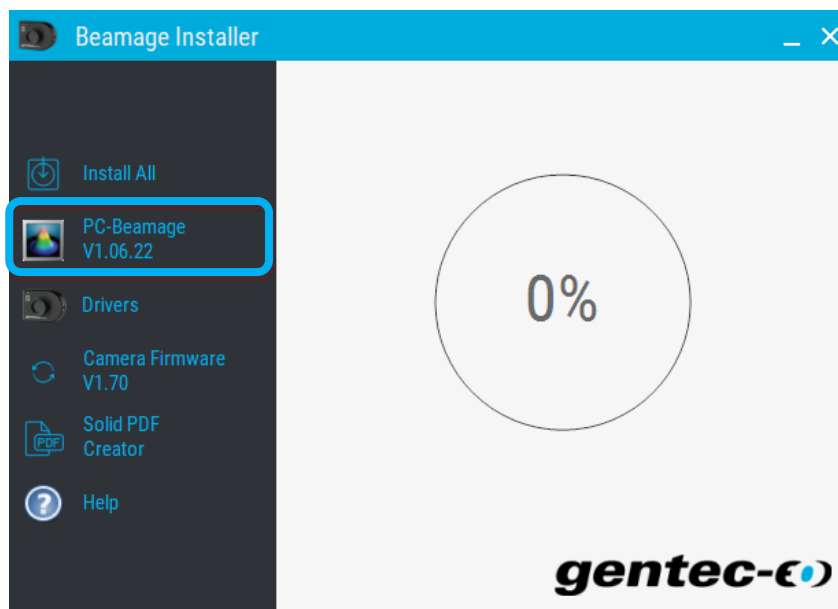

Figure C-1 Beamage Installer
- 2) Use the installer to install the PC-Beamage Software, see Figure C-1.